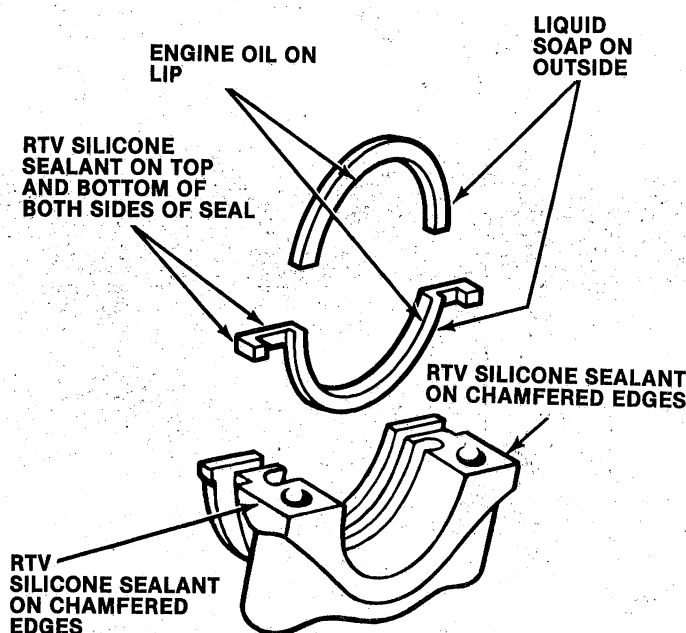

Fig. 1B-96 Rear Main Oil Seal and Cap Installation
- (4) Coat both sides of lower seal end tabs with RTV silicone (Jeep Gasket-in-a-Tube, or equivalent). Use care to prevent applying sealer to lip of seal.
- (5) Coat outer curved surface of lower seal with soap and lip of seal with engine oil.
- (6) Install seal into cap recess and seat it firmly.
- (7) Coat both chamfered edges of rear main bearing cap with RTV silicone sealant (fig. 1B-96).